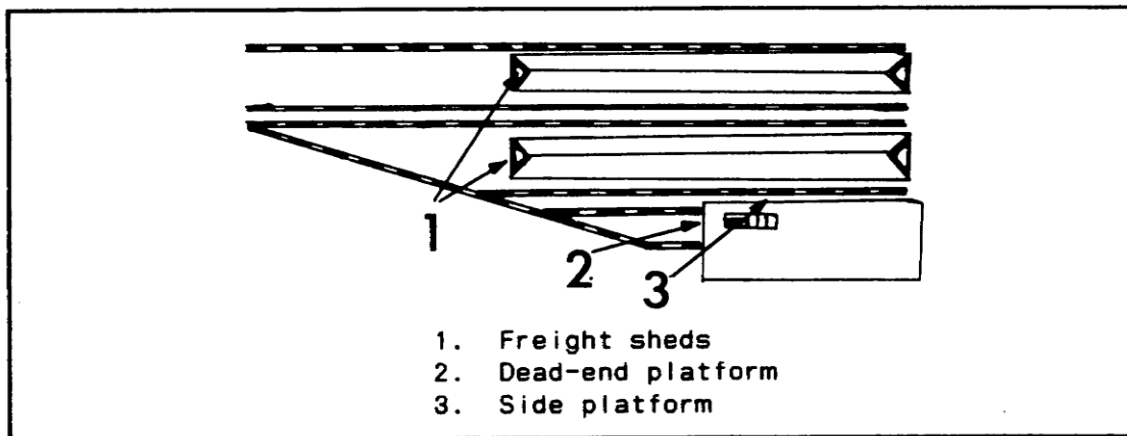

Figure 1-10. Freight Transfer Station.
a. Freight transfer stations may resemble freight terminals in many respects: loading areas between tracks, freight sheds and stacks of freight are common features. Access to the loading areas from nearby streets, however, is not needed to transload freight from one railcar to another (Figure 1-10).